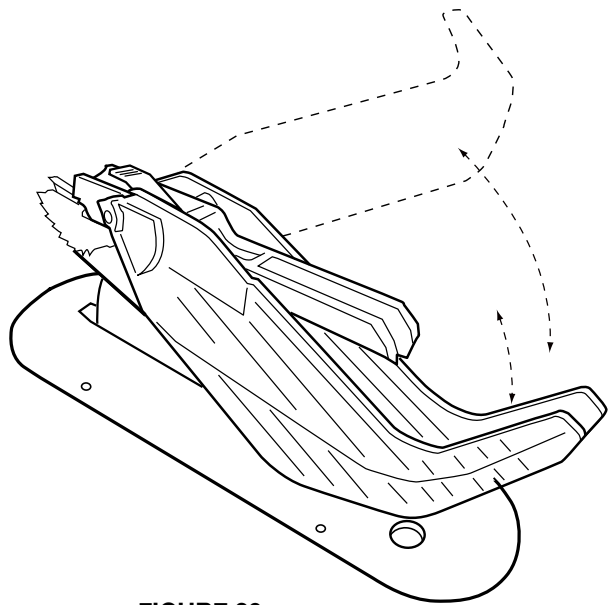

FIGURE 26
1. Refer to Figure 26 and, lifting the guard from the front, raise the guard shield until it snaps into a locked position above the table. One or both guard shields can be raised.
reset button (B), on the motor under the saw, shown in Figure 26, and restart the saw.